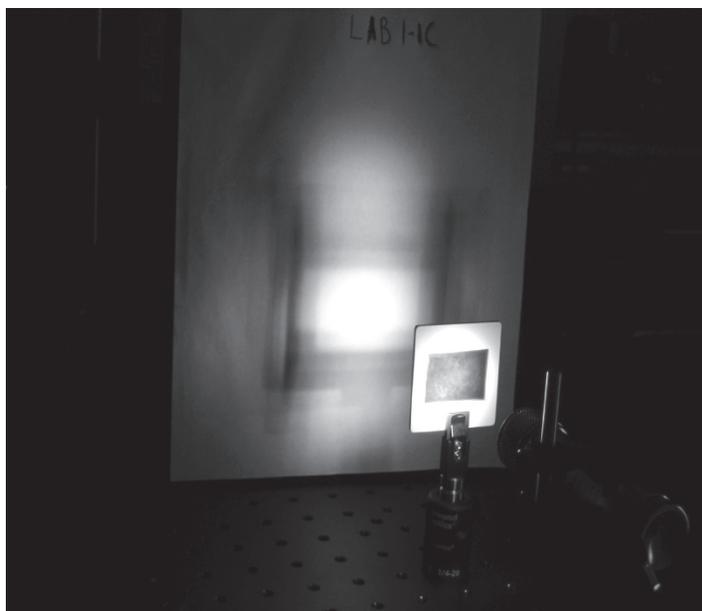

Figure 11 – Spectrum Analysis Set-up
2. Focus the light perpendicularly onto the grating surface. Refer to Figure 11.